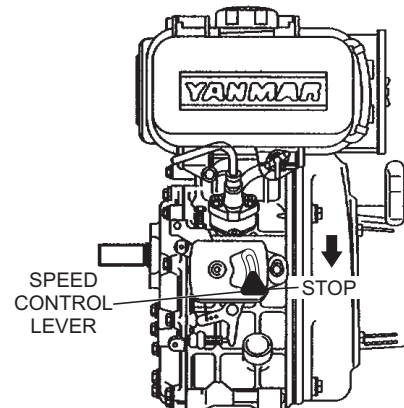

Figure 17. Speed Control Lever (Stop Position)
2. Next, place the speed control lever in the STOP position (Figure 17) to stop the engine.
1. Move the speed control lever quickly to the STOP position (Figure 17).